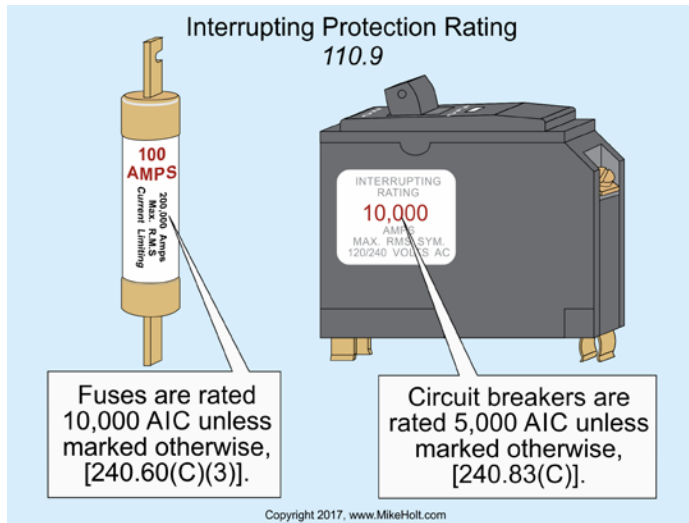

Figure 110-4
- Unless marked otherwise, the ampere interrupting rating for circuit breakers is 5,000A [240.83(C)], and for fuses it's 10,000A [240.60(C)(3)]. Figure 110-4